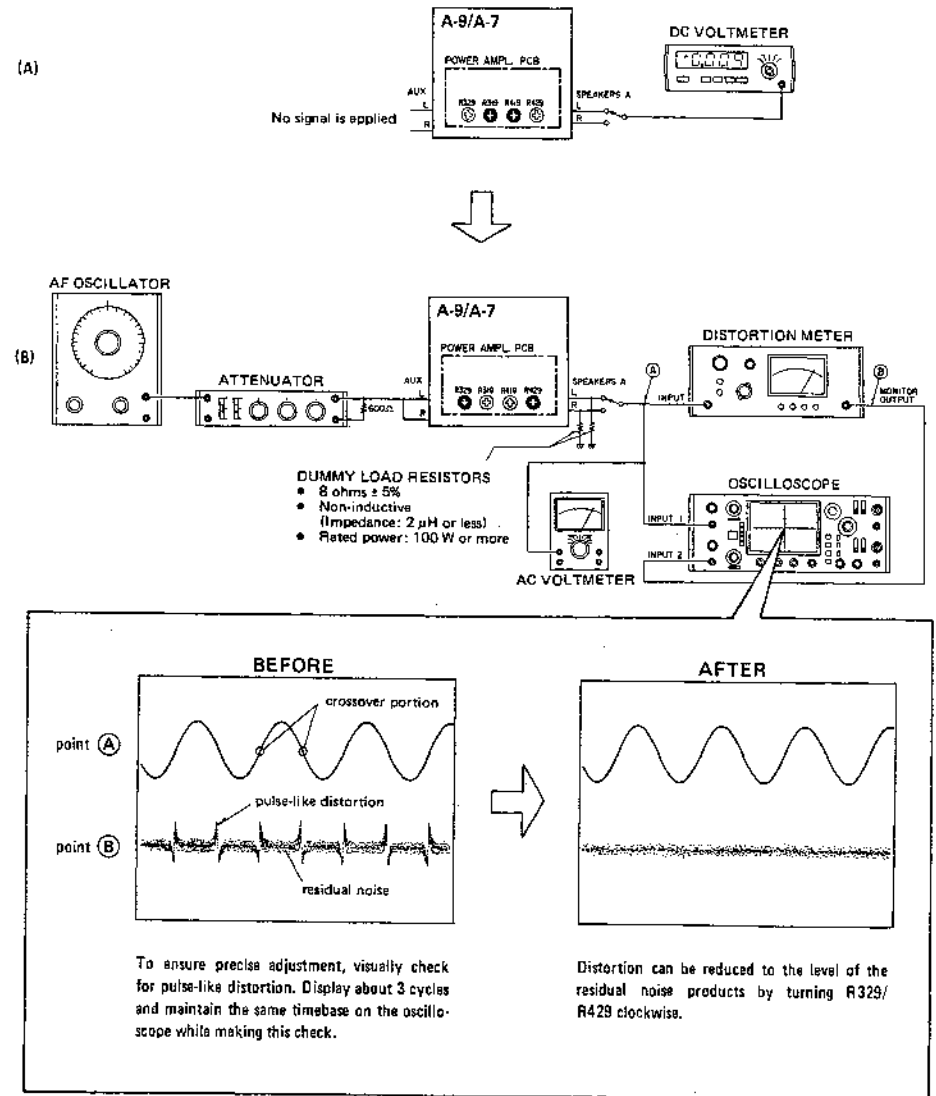

Fig. 4-3 DC balance and idling current adjustment
1. Make the test connections shown in Fig. 4-3 (A).
3. Connect dummy resistors to both L-ch and R-ch SPEAKERS A terminals as shown in Fig. 4-3 (B).
6. While monitoring the output waveform at point (A) together with its distortion waveform at point (B), gradually turn R329/R429 until the pulse-like distortion in the crossover portion is reduced to the same level as the residual noise products. Be sure that the trim pots remain in the exact position in which the distortion is reduced to the optimum level.